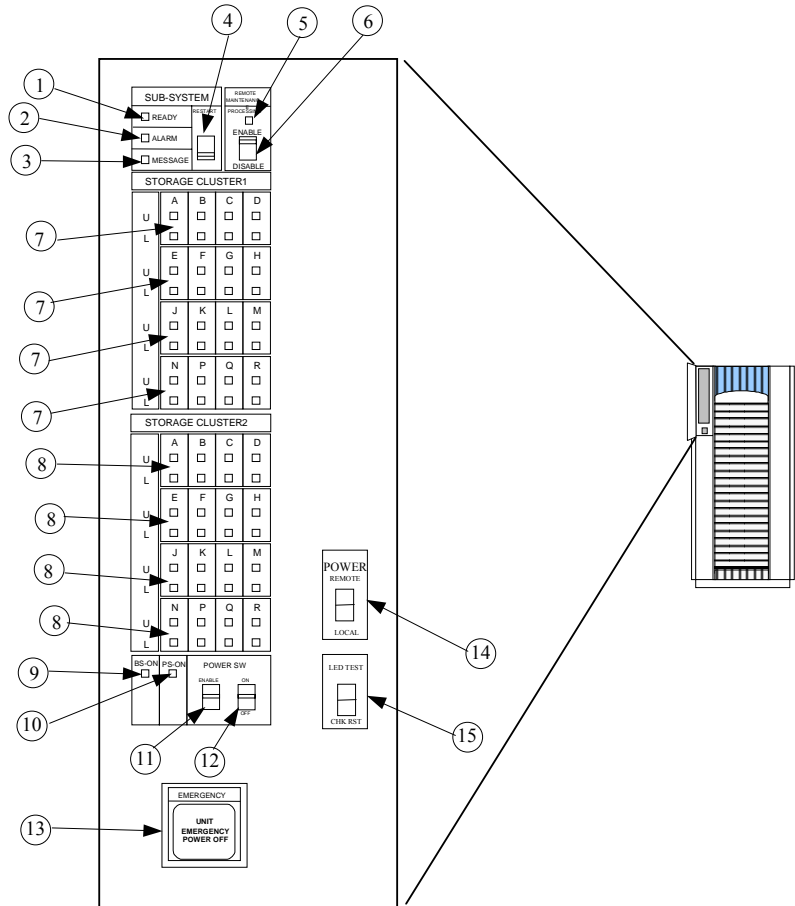

Figure 3. Control Panel
Figure 3 and Table 3 on page 30 show the control panel and its functions, respectively.
1. Move the ENABLE/DISABLE switch to the ENABLE position. Move the PWR ON/OFF switch to the PWR ON position (Figure 3 on page 29, items 11 & 12)
The BS-ON LED (Figure 3 on page 29, item 9) will turn amber and the PS ON LED (10, Figure 3 on page 29, item 10) will turn green.
The CHANNEL LED (Figure 3 on page 29, item 7) will light green for every adapter installed.
The MESSAGE LED (Figure 3 on page 29, item 3) may turn amber if your disk array is not configured for automatic maintenance notification, signifying a SIM was generated (because the disk array went down unexpectedly).
Finally, the Ready LED (Figure 3 on page 29, item 1) will light green when the system is ready, which may take up to 10 minutes, depending on the number of disks installed in your disk array.
Your disk array will automatically restart and return to service when power is restored. To enable this feature, place the ENABLE/DISABLE switch in the ENABLE position and the PWR ON/OFF switch in the PWR ON position (Figure 3 on page 29, items 11 & 12). When power is restored, your disk array will restart and the following LED sequence will occur: